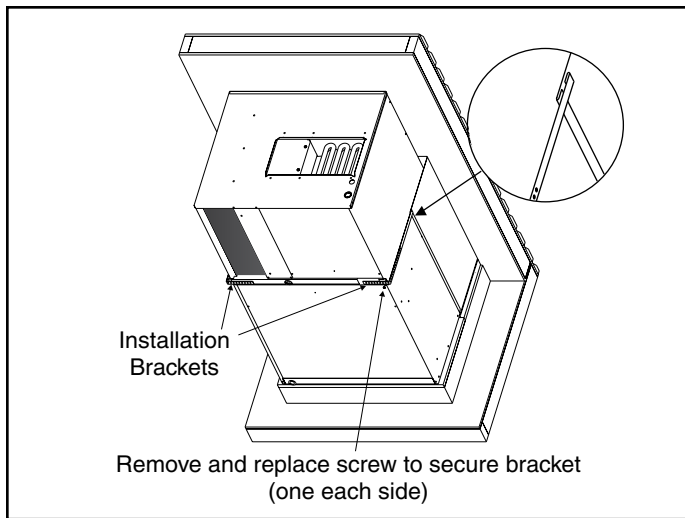

Figure 4. Securing Unit
4. Use the two installation brackets to secure the unit to the wall sleeve (see Figure 4). The units are shipped with the brackets placed in the return air compartment. Hook each bracket into the front edge of the wall sleeve side. Position the bracket so it can be bent around the front corner of the unit. Remove one of the two screws in that position on the unit. Line up one of the holes in the installation bracket with the screw hole and attach